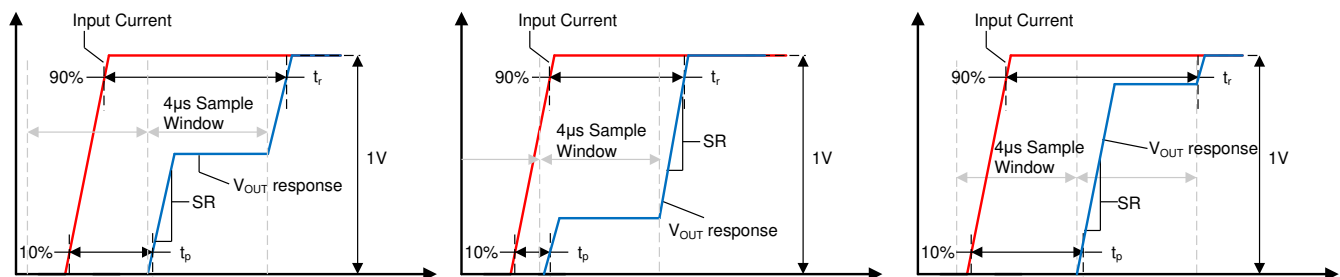

Figure 8-3. Small Current Input Step Transient Response
Slew rate (SR) is defined as the V_{OUT} rate of change for a single integration step's output transition, as shown in Figure 8-3. Because the device often requires two sampling windows to reach a full 90% settling of its final value, this slew rate is not equal to the 10%-90% transition time for the full output swing.
Propagation delay is the time period between the input current waveform reaching 10% of its final value and V_{OUT} reaching 10% of its final value. This propagation delay is heavily dependent upon the alignment of the input current step and the sampling period of the TMCS1100-Q1, as shown for several different sampling window cases in Figure 8-3.
Response time is the time period between the input current reaching 90% of its final value and the output reaching 90% of its final value, for an input current step sufficient to cause a 1-V transition on the output. Figure 8-3 shows the response time of the TMCS1100-Q1 under three different time cases. Unless a step input occurs directly during the beginning of one sampling interval the response time will include two sampling intervals.